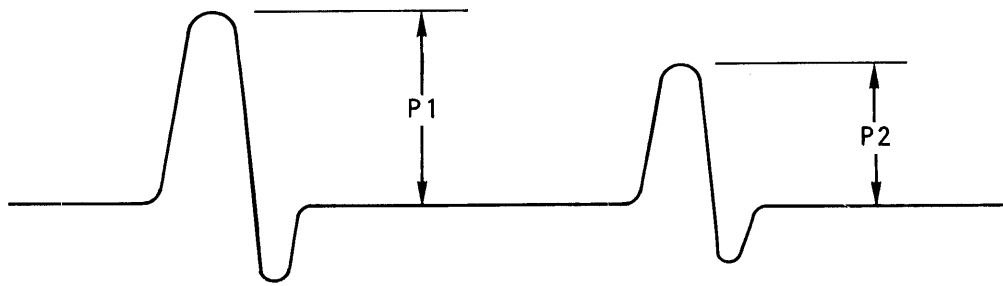

Figure 4-34. Reference Edge Measurement Waveform (TP10)
- m. Run tape in forward direction (Service Aid 23) and compare P1 and P2 on oscilloscope trace. See Figure 4-34.